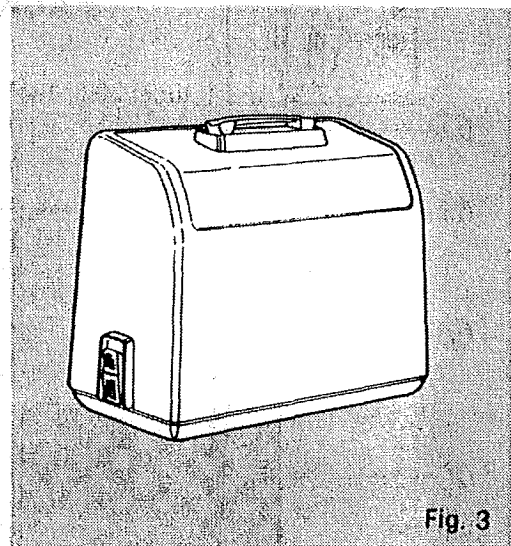

Fig. 3
3. "SEARS" on handle facing you. The case slopes in the same direction of the machine. (Fig. 3)